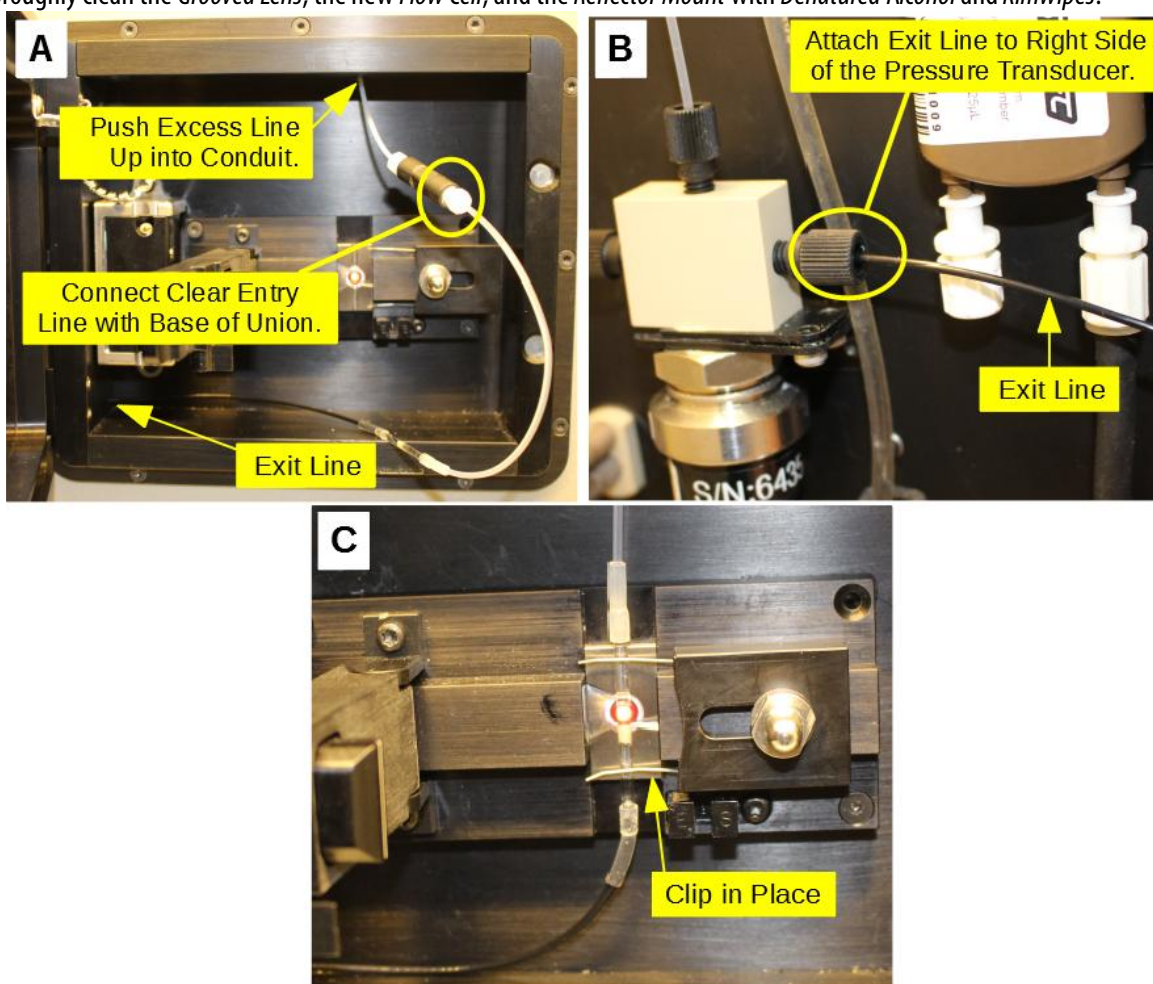

Figure 1: Routing diagram for the Flow Cell.
Torque the *Extra Short Nut* to 15 in-oz using the *1/4" Deep Socket (015902)* and the *15 in-oz Torque Wrench (024140)*. Route the *Clear Entry Line* upwards through the hole (located on the top of the *Optics Housing Frame*), making sure the *Union* is hidden from view. (Figure 1, A)
- Slide the *Black Exit Line* through the *O-Ring* (located on the lower left side of the *Optics Housing Frame*) and connect it into the right side of the *Pressure Transducer* using a *1/16" White Ferrule* (included with the new Flow Cell) with the saved *Black Nut*. (Figure 1, B)
- Apply a thin film of *Dielectric Grease (231362)* onto the *Flow Cell* before securing it with the *Retainer Clip* and attaching the *Reflector Mount*. (Figure 1, C)